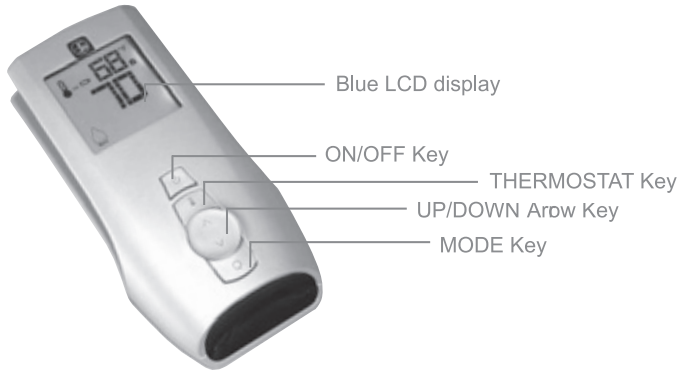
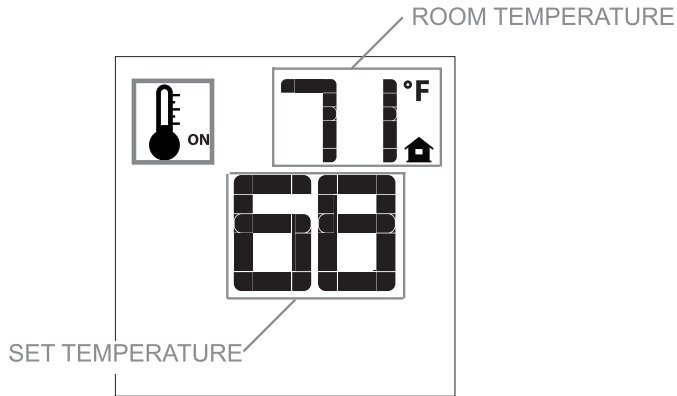
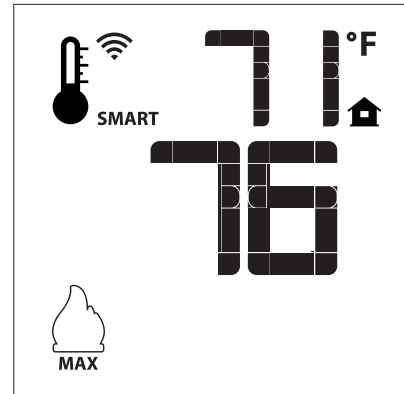
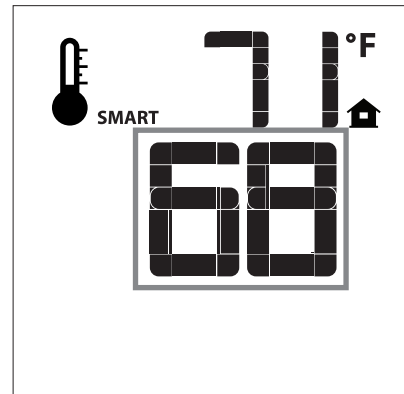

Figure 24 - Proflame Transmitter
Figure 34a
Figure 35
Figure 36
NOTE: A small toggle switch is located on a bracket that is used to switch from IP (left position) to the CPI (right position). See **Figure 24**.
3. The gas valve has inlet and outlet pressure taps as shown in **Figure 24**. Refer to pages 15 - 16 for gas pressure requirements.
The Proflame Transmitter uses a streamline design with a simple button layout and informative LCD display. See **Figure 24**. The Transmitter is powered by 3 AAA type batteries. A Mode Key is provided to Index between the features and a Thermostat Key is used to turn on/off or index through thermostat functions. See **Figures 24 and 25**.
To activate this function, press the Thermostat Key. **See Figure 24.** The LCD display on the Transmitter will change to show that the room thermostat is "ON" and the set temperature is now displayed. **See Figures 34a and 34b.** To adjust the set temperature, press the Up or Down Arrow Keys until the desired set temperature is displayed on the LCD screen of the Transmitter.
To activate this function, press the Thermostat Key (**See Figure 24**) until the word "SMART" appears to the right of the temperature bulb graphic. **See Figure 35.** To adjust the set temperature, press the Up or Down arrow Keys until the desired set point temperature is displayed on the LCD screen of the Transmitter. **See Figure 36.**